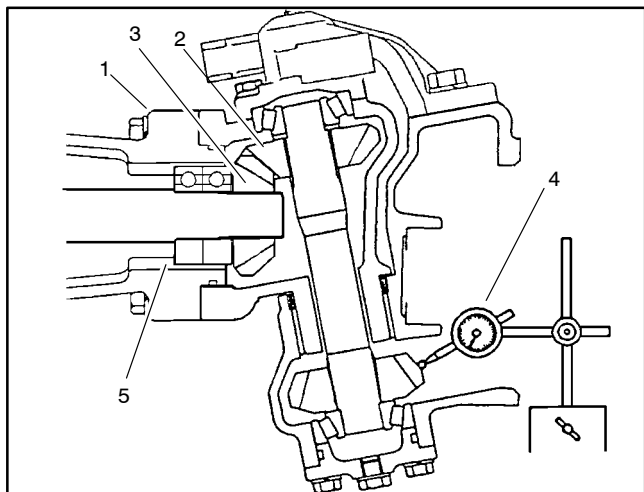

Figure 9
7. Temporarily install the bevel gear case/axle case assembly on the axle support. Position a dial indicator at the tooth's center. Prevent the axle from turning and measure the upper bevel gear to differential shaft gear backlash (Fig. 9).